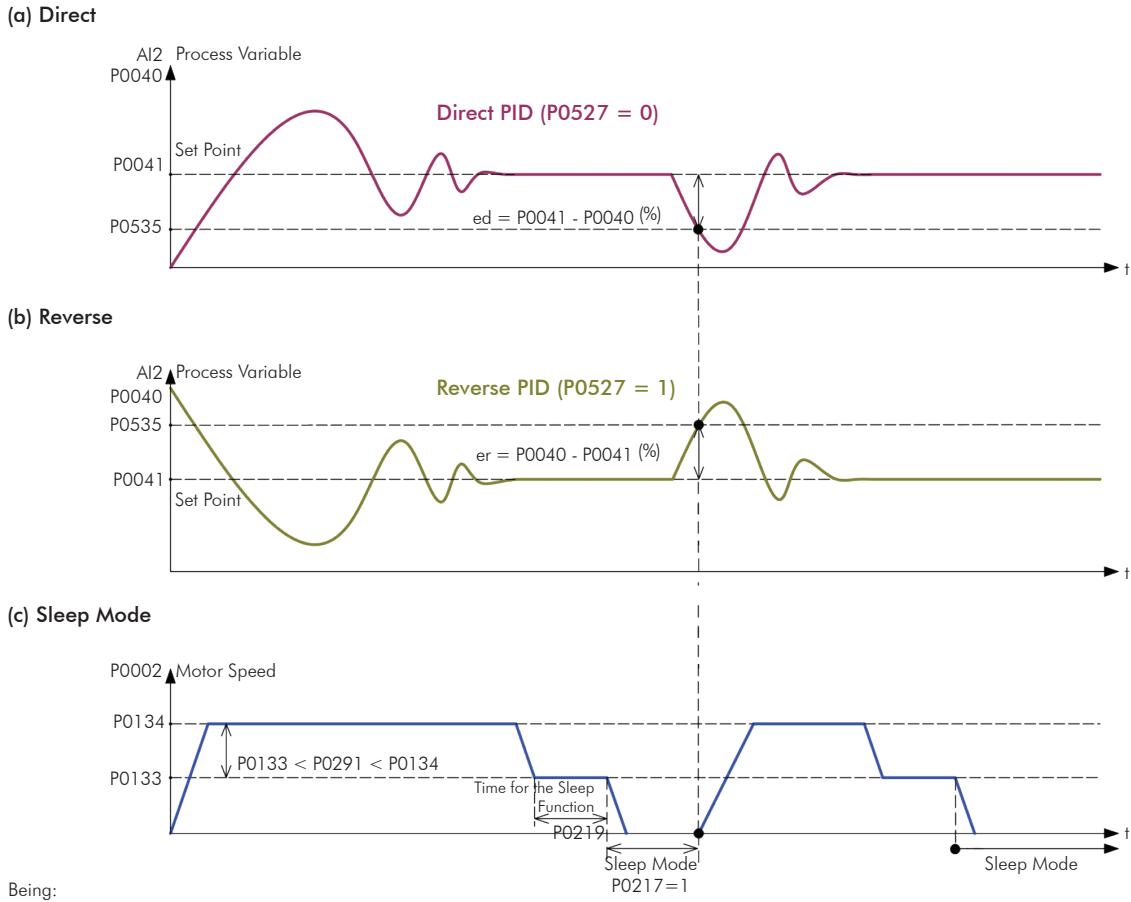

Figure 20.2 - (a) to (c) - PID action type
2) **To define the type of PID action** that the process requires: direct or reverse. The control action must be direct (P0527 = 0) when it is necessary that the speed increases for the process variable to increase. Otherwise, select reverse (P0527 = 1). See Figure 20.2 on page 20-4.
The sleep mode is a useful resource for saving energy when using the PID regulator. Refer to the Figure 20.2 on page 20-4.
However, the P0291 setting must be:  $P0133 < P0291 < P0134$ . Refer to the Figure 20.2 on page 20-4.